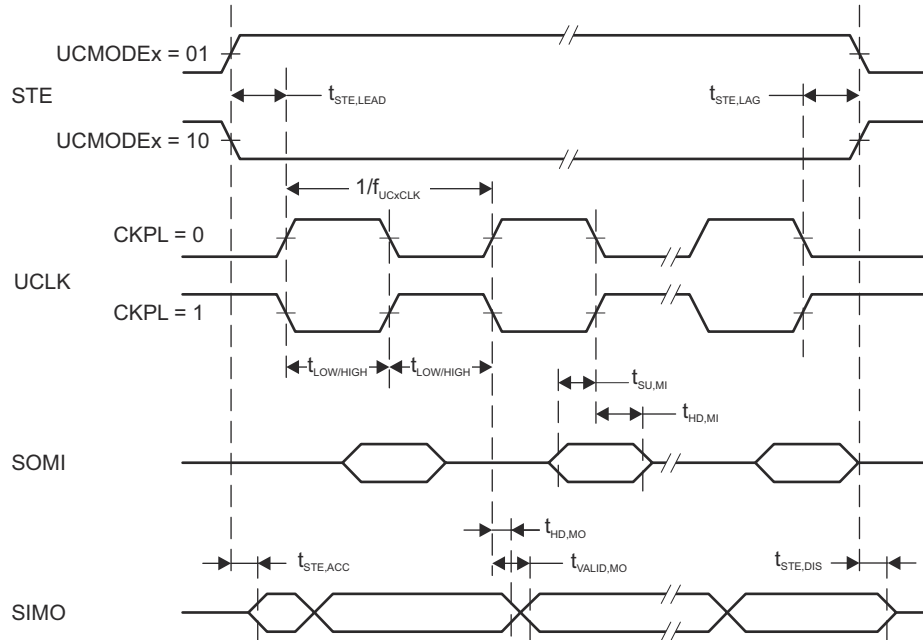
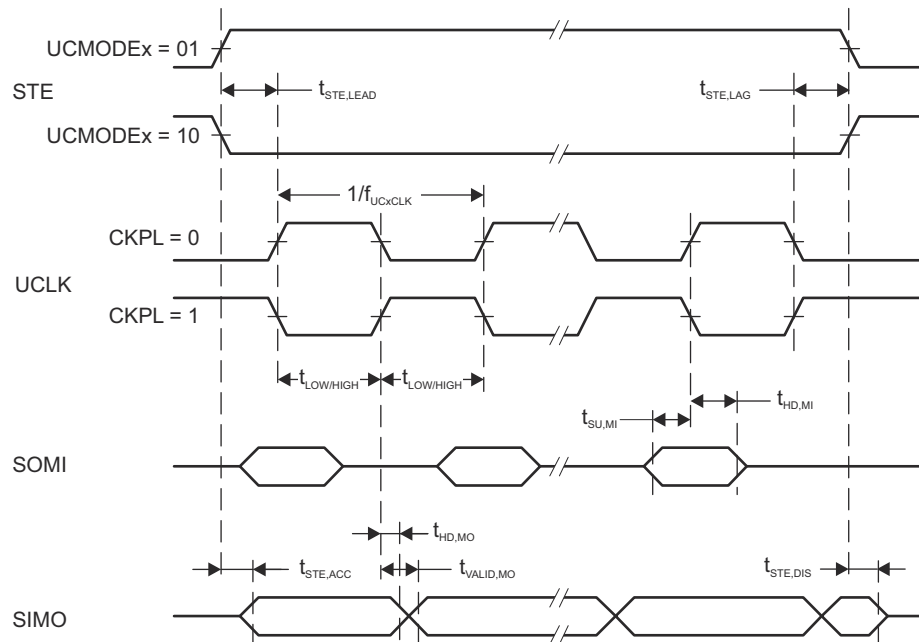

图 8-10. SPI Master Mode, CKPH = 0
图 8-11. SPI Master Mode, CKPH = 1
- (2) Specifies the time to drive the next valid data to the SIMO output after the output changing UCLK clock edge. Refer to the timing diagrams in Fig 8-10 and Fig 8-11.
- (3) Specifies how long data on the SIMO output is valid after the output changing UCLK clock edge. Negative values indicate that the data on the SIMO output can become invalid before the output changing clock edge observed on UCLK. Refer to the timing diagrams in Fig 8-10 and Fig 8-11.